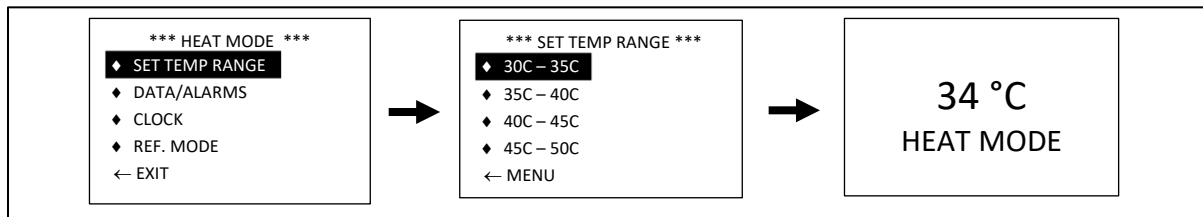

Figure 18: xFridge Heat Mode Temperature Selection
- Press MENU/SELECT and use ▲ and ▼ to highlight “SET TEMP RANGE” then press the MENU/SELECT as shown in Figure 18.